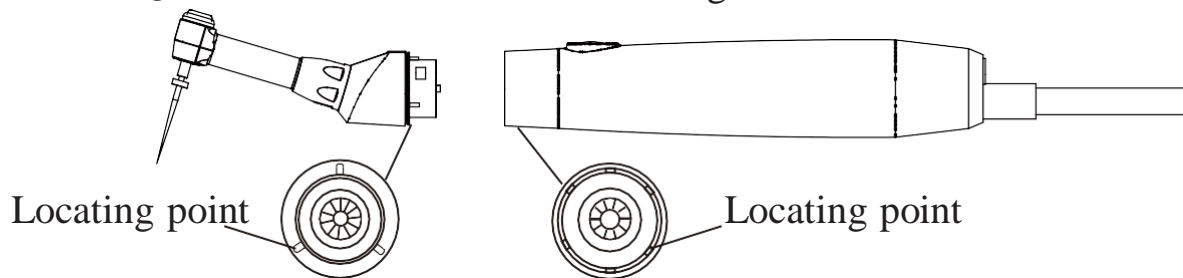

Fig. 3.1 Explanation of connecting the contra-angle and handpiece
3.1 Connecting the Contra-angle and Handpiece (Fig. 3.1)